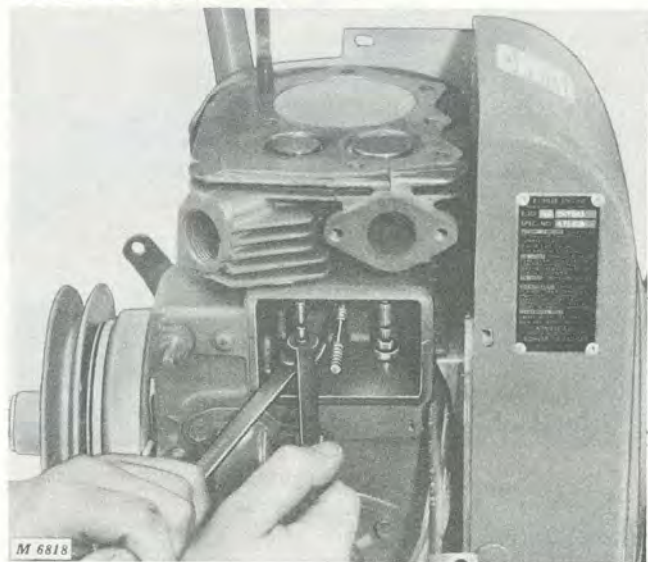

Fig. 22 - Adjusting Tappet Clearance
5. With a wrench on the flat area of the tappet and a wrench on the tappet adjusting screw, Figure 22, turn the screw up or down until the proper setting is obtained when checking with a feeler gauge.